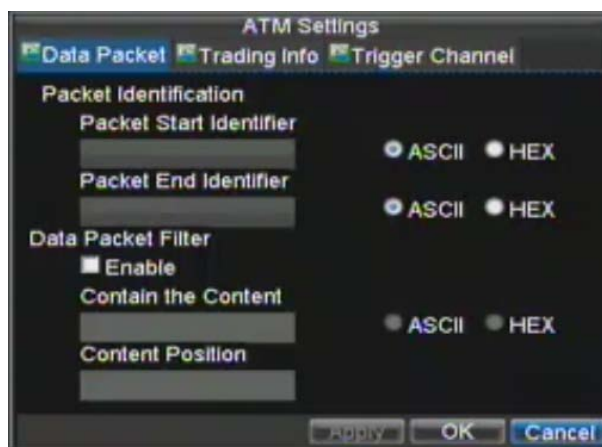

Figure 2. Data Packet Menu
4. Set the **Data Packet** in the menu shown in Figure 2: **Packet Identification**: set the start/end identifier of the packet and identifier type (ASCII/HEX) to determine the identifier position in the message. **Data Packet Filter**: set the content (ASCII/HEX) and the content position to filter the message, as well as obtain the message containing the filtered content. After completion of Data Packet settings, click the **Trading Info** item to enter the menu.